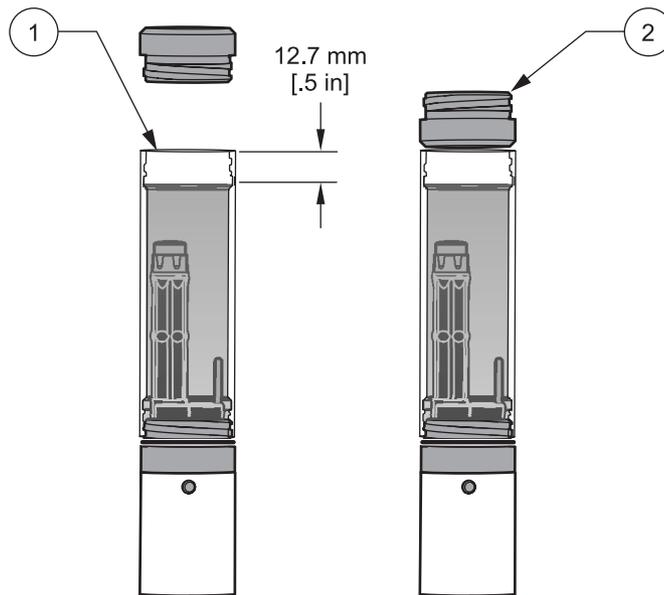

Figure 3 Method 1 Calibration
- d. With the sonde positioned with sensors facing upright, pour the water into the calibration cup, fully submersing the Hach LDO sensor cap and the temperature sensor (Figure 3). Make sure the water comes close to the top of the calibration cup. Place the calibration cup cap upside down (concave upward) on top of the calibration cup to cover the calibration cup. This stops the exchange of air and allows the local environment to equilibrate. Do not tightly seal or otherwise raise the barometric pressure in the calibration cup. Make sure that the calibration cup is not in direct sunlight or in the presence of a heat or light source that could change the temperature in the calibration cup. If needed, protect the calibration cup with a reflective shield.